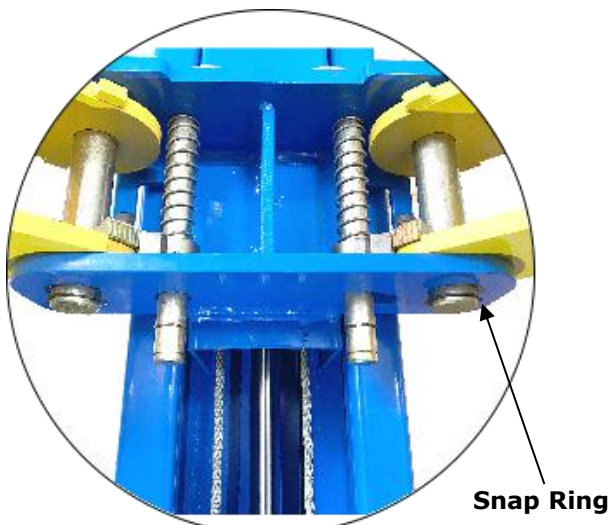

Fig. 28
1. Install the lifting arms (**See Fig. 28**).